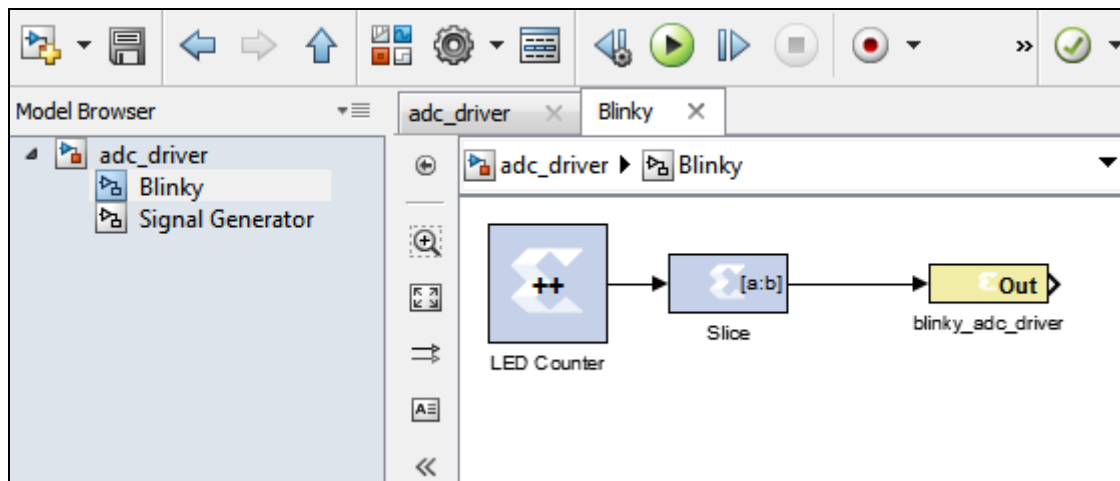

Figure 1-3: Blinky Subsystem
2. The white box labeled “Blinky” is simply a subsystem of the **Counter Slice** and LED **Gateway Out** blocks. The Blocks used for this subsystem are shown in Figure 1-3. You can create a subsystem from any number of blocks in your design by first adding the blocks to the design, selecting them, and pressing Ctrl+G, or right clicking and selecting **Create Subsystem from Selection**. Configure the Blinky subsystem identically to the other LED out systems in the previous labs.